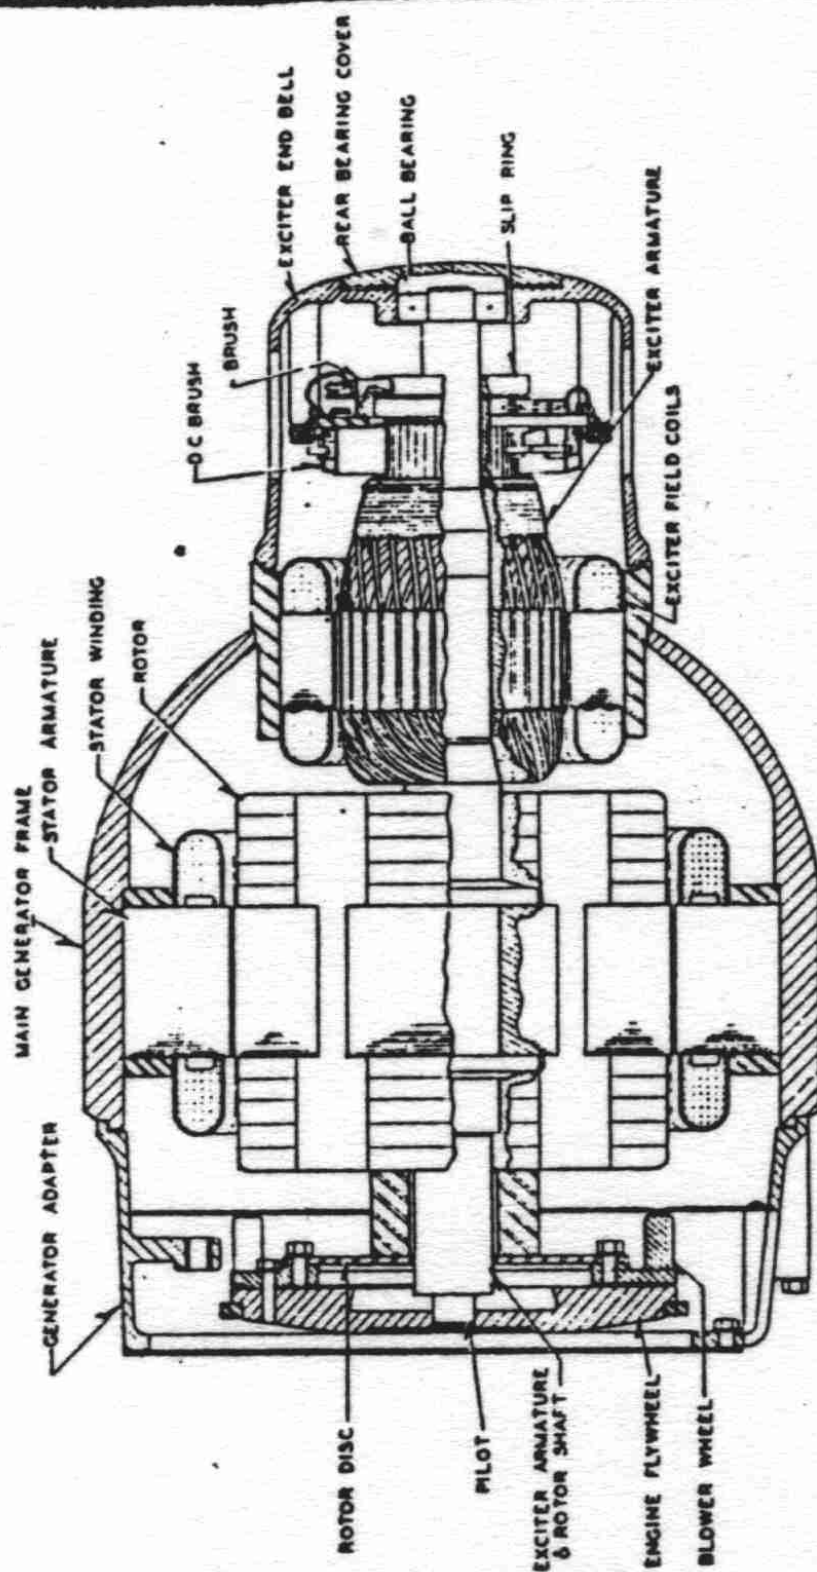

FIG. 40 GENERATOR CROSS SECTIONAL DIAGRAM
b. Major Servicing.—Replacement of exciter field coils, rotor or stator (Fig. 40), will require removing major parts of the generator. The housing super-structure must be removed before such major servicing of the generator can be done.
(1) Disconnect all wires leading from the power unit.
(2) Remove the side and top panels from the housing. To remove the front top panel it will be necessary to remove the bolts by which the retaining chains are attached to the panel.
(3) Disconnect all battery cables at the battery. Remove the four thumb screws and the top frame which hold the battery down. Remove the battery and the sliding battery tray.
(4) Remove three screws from the top edge of the control panel and tip the panel out and down to a horizontal position.
(5) Disconnect from the panel the bond strap extending from the exciter end bell. Disconnect the four main generator leads at the a-c terminal block. Attach numbered tags to the wires as they are removed, to assure proper connections when reassembling.
(6) Close the control panel and replace the center screw.
(7) Remove the tape from the wire harness assembly which extends forward over the generator.
(8) Disconnect the larger cable from the right hand terminal of the solenoid starting switch.
(9) Disconnect the wire from the electric choke.